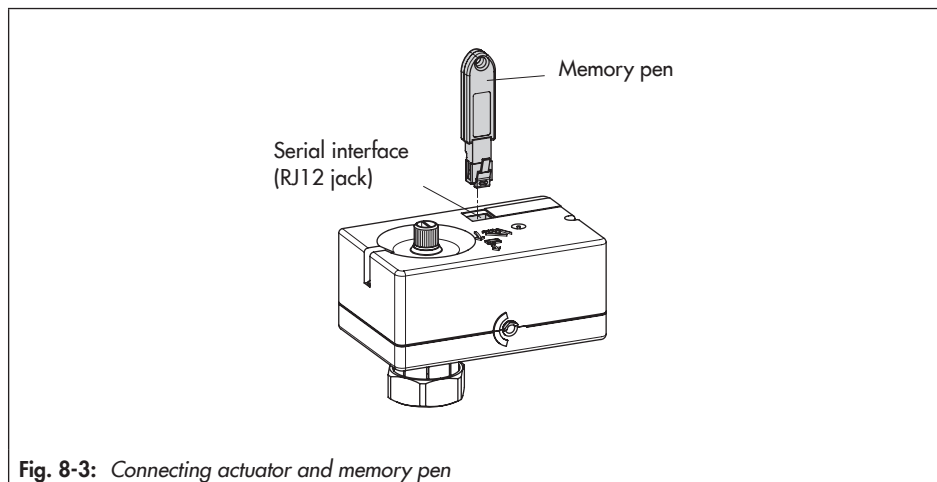

Fig. 8-3: Connecting actuator and memory pen
The memory pen is connected to the actuator as shown in Fig. 8-3. Refer to the TROVIS-VIEW Operating Instructions ► EB 6661 on how to transfer data.
1. Plug the memory pen into the serial interface of the actuator (Fig. 8-3).